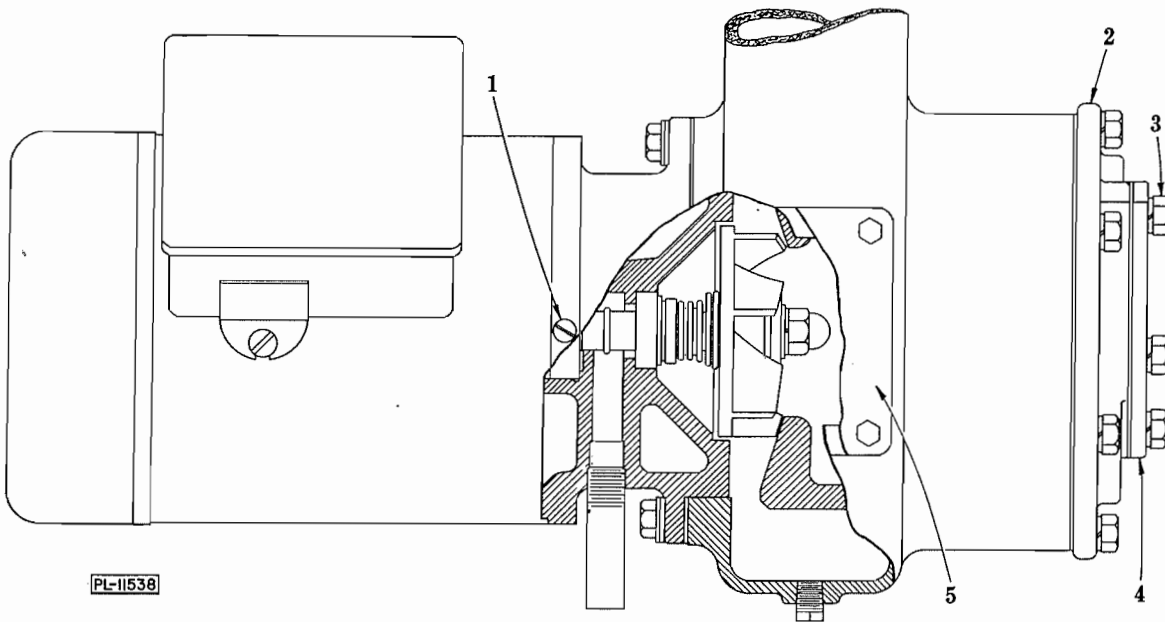

Fig. 8
B.2.2 The three phase motor must be connected so the motor rotates in direction of arrow on pump face plate cover (4, Fig. 8). Remove the three hex head screws (3, Fig. 8) that retain the face plate cover (with the arrow). The impeller is then plainly visible and should rotate clockwise. Interchanging two power line leads will reverse the three phase motor. The motor must rotate in the correct direction for the pump to function properly.
D.1.1.1 Lubricate once or twice a year with the proper lubricant. Remove the grease plug (1, Fig. 8) to add the grease.
E.1.3.1 Pump obstruction. Turn off electric power supply, then drain tank. Check for and remove any obstruction in tank and pump intake. Next, remove inspection plate (5, Fig. 8) and face plate cover (4, Fig. 8). Check and remove any obstruction. Seal gaskets at re-assembly.
E.2.1 If the pump face plate (2, Fig. 8) is removed, in servicing the pump and a new gasket is required, select a gasket (or gaskets) from the gasket kit, that will give from .008" to .010" clearance between face plate and impeller. This is IMPORTANT. The gasket kit (part M-80432) consists of 1 blue (.005" thk.), 1 brown (.010" thk.) and 1 yellow (.020" thk.).